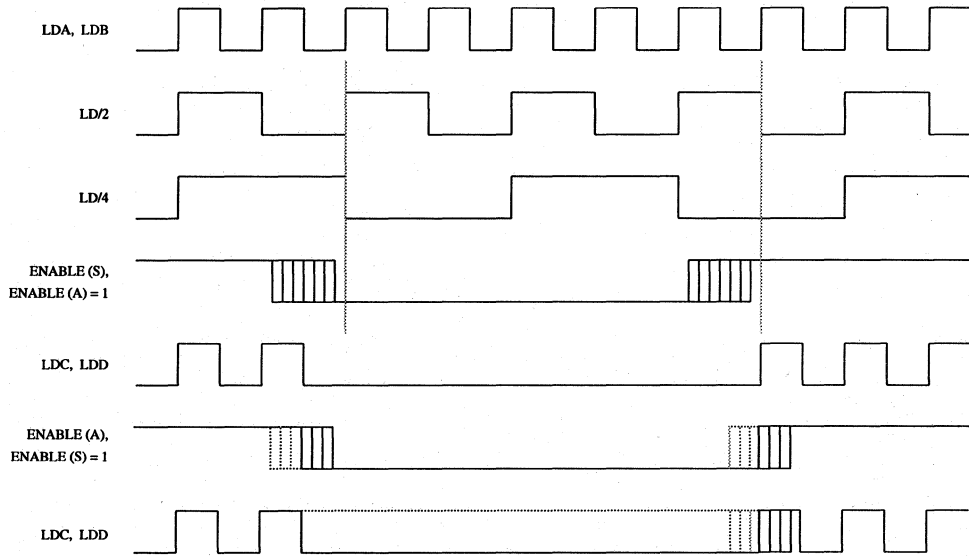

Figure 2. Load Output Timing.
While both ENABLE (S) and ENABLE (A) are logical ones, LDC and LDD will be free running, and in phase with LDA and LDB. This architecture allows the shift registers of the video DRAMs to be optionally nonclocked during the retrace intervals. Figure 1 illustrates the ENABLE implementation within the Bt438, while Figure 2 shows the load output timing.